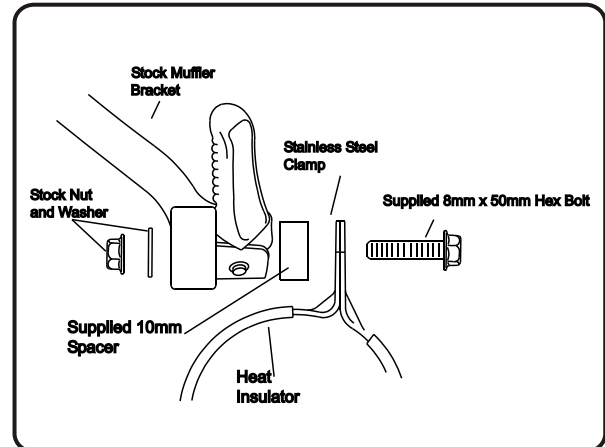

Fig. 4
(Note direction of clamp in Fig. 4)
- 6 Mount clamp to stock muffler bracket using supplied bolt, spacer and stock washer with nut. (see Fig. 4) Hand tighten only at this point.